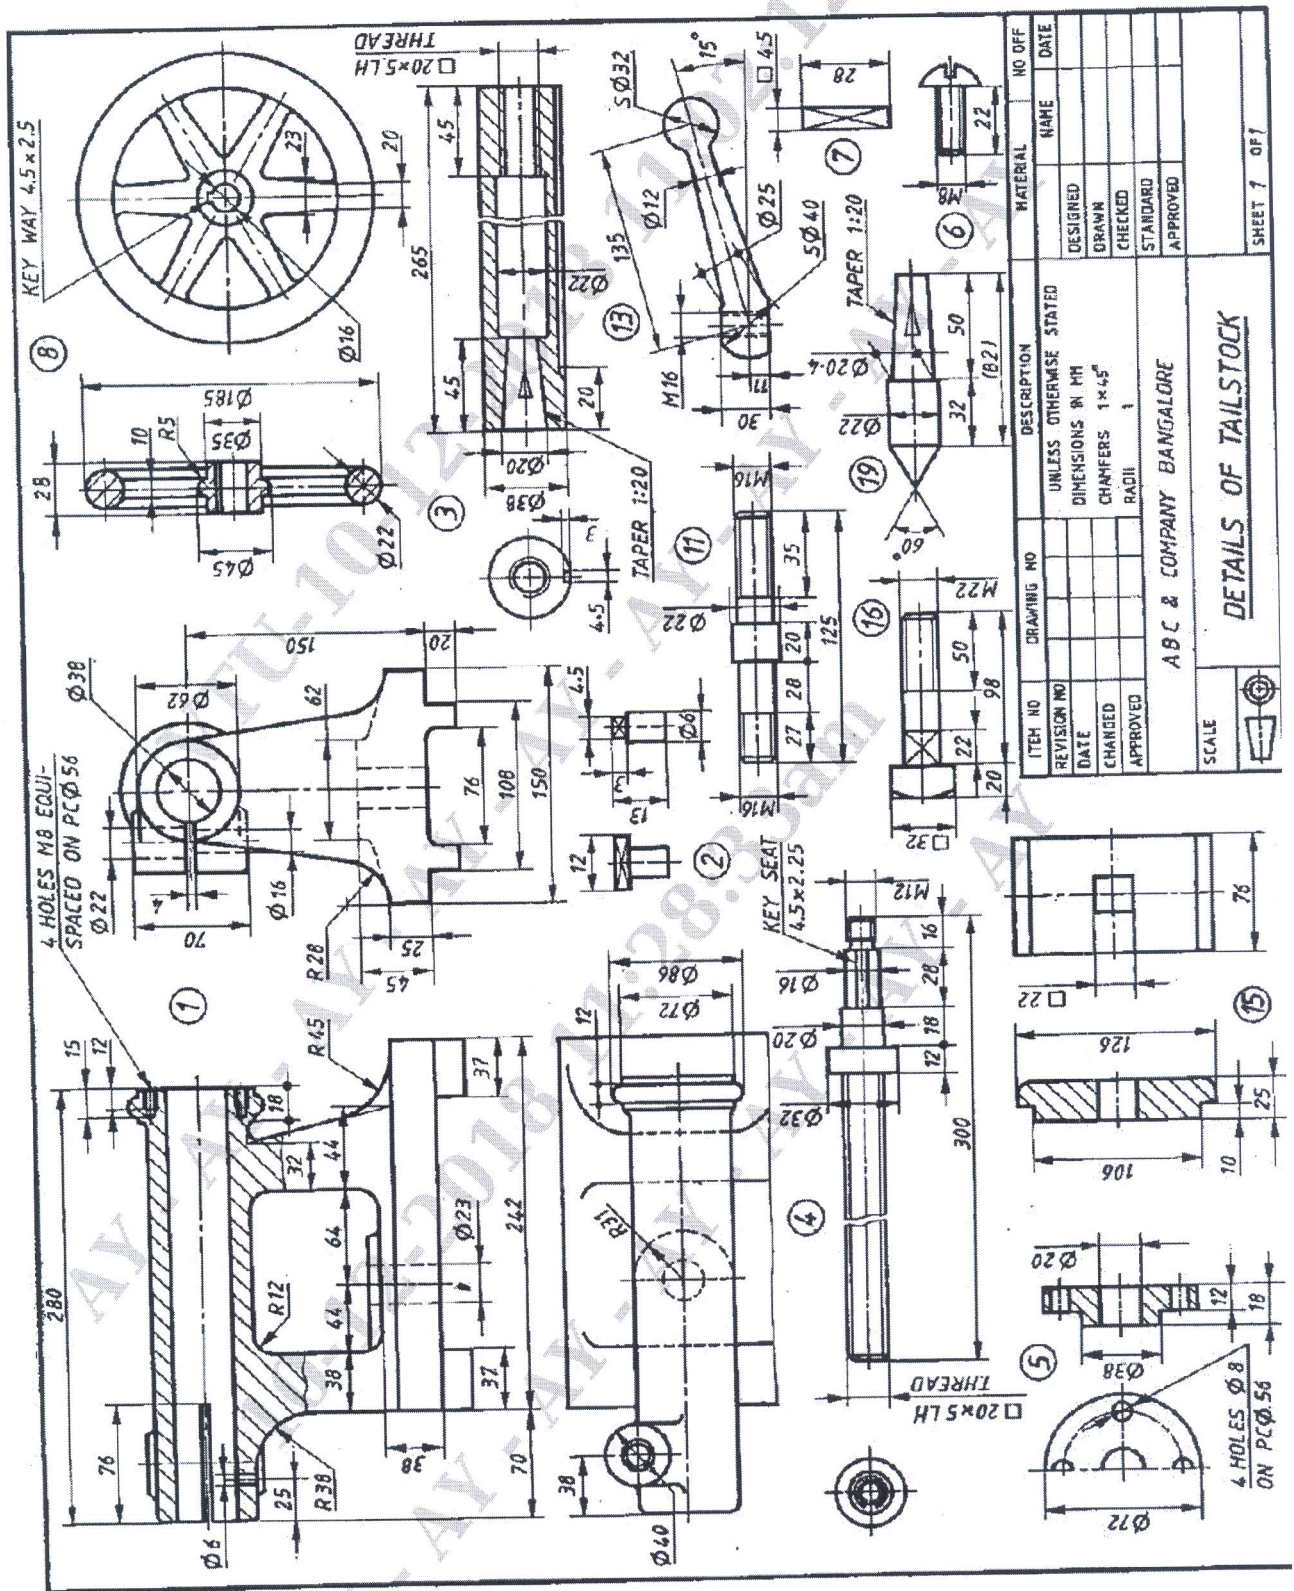

Figure 3: Details of tailstock
- Q.No.6** Figure 3 shows the part drawing of a "TAIL-STOCK". Assemble the Parts and show the following views.